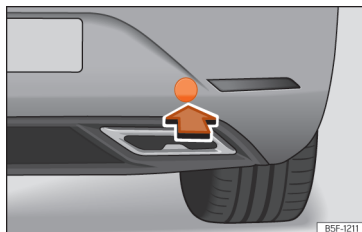

Fig. 219 Rear bumper on right: remove the lid.
The housing of the screw towing eye is on the right side of the rear bumper behind a lid >>> **Fig. 219**.
- Press the lower side of the lid >>> **Fig. 219** to unclip it.